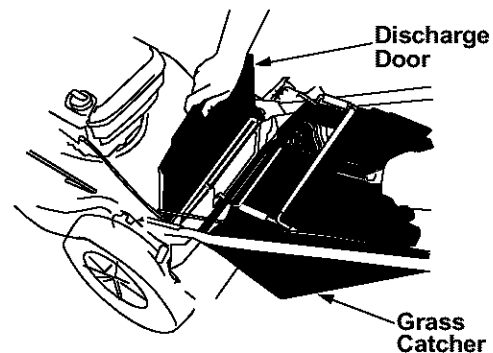

Figure 9
- Holding open the rear discharge door, place the grasscatcher on the pivot rod. Let go of the discharge door so that it rests on the grass catcher. See Figure 9.